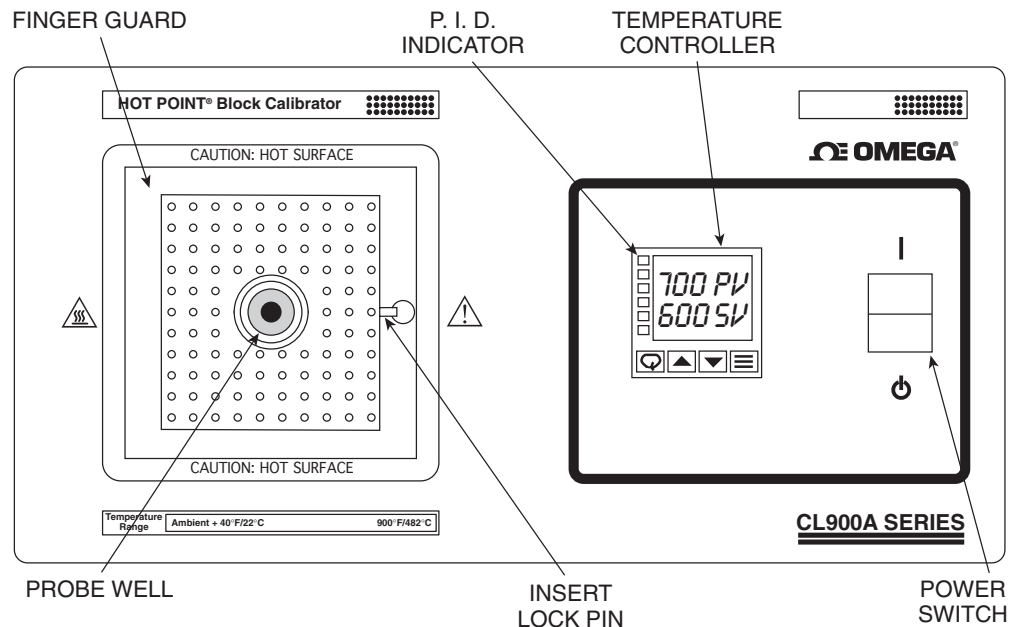

Figure 6. Front Panel
2. Remove the probe well insert using the extraction tool (HP-0037). The tool is first squeezed, inserted into the aperture of the probe well insert (aligning the pins of the tool with the holes insert). Then relaxed such that the pins separate, locking into the holes of the insert on either side of the shaft. Pull the pin out slowly. See Figure 6.